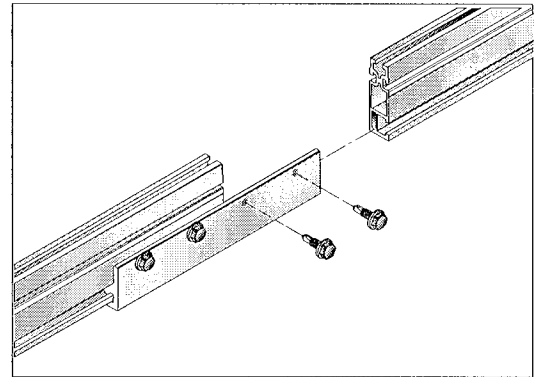

Figure 13. Splice bars slide into the footing bolt slots of SolarMount rail sections.
**Installing Splices.** If your installation uses SolarMount splice bars, attach the rails together (Fig. 13) before mounting the rails to the footings. Use splice bars only with flush installations or those that use low-profile tilt legs.